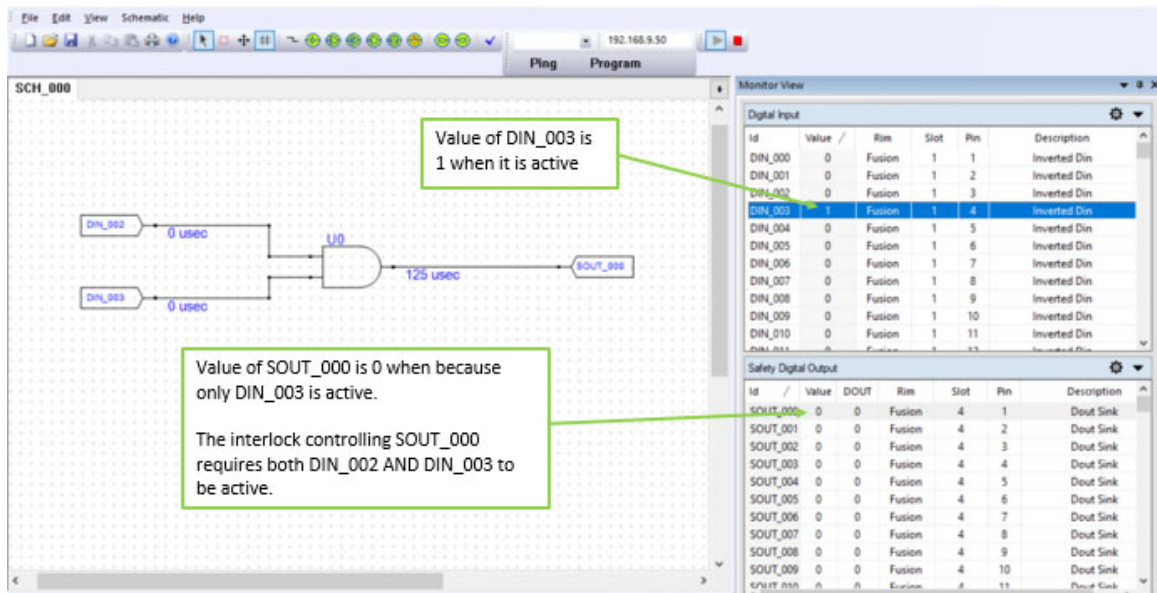

Figure 46 - Testing DIN_003
- c) Test with both DIN_002 and DIN_003 (See Figure 46 - Testing DIN_003.)